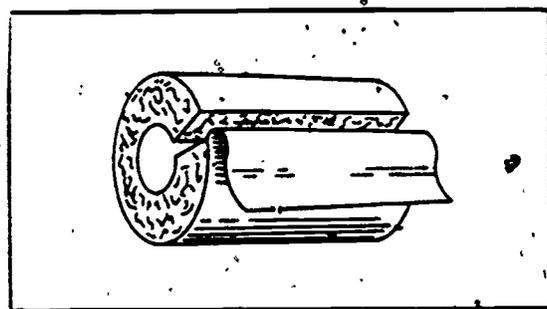

Figure 4-7. Magnesia insulation.
g. Magnesia insulation, shown in figure 4-7, is composed of approximately 85 percent pure carbonate of magnesia and long threadlike asbestos fibers. This